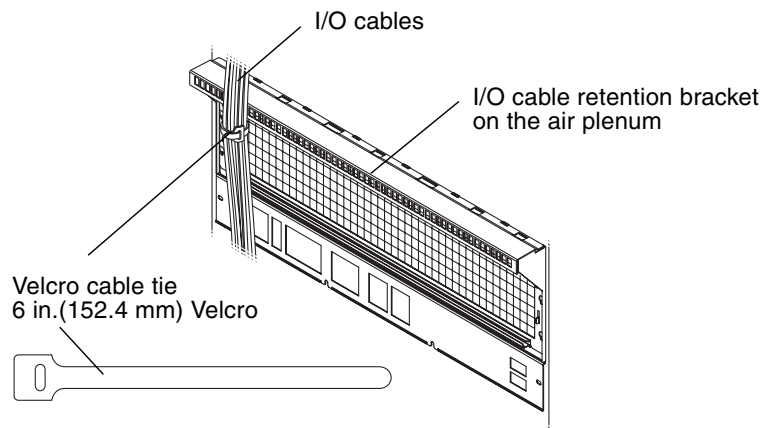

FIGURE 4-1 I/O Cable Retention
4. Position all cables in the I/O cable retention bracket on the air plenum and secure with Velcro cable ties shown in FIGURE 4-1.